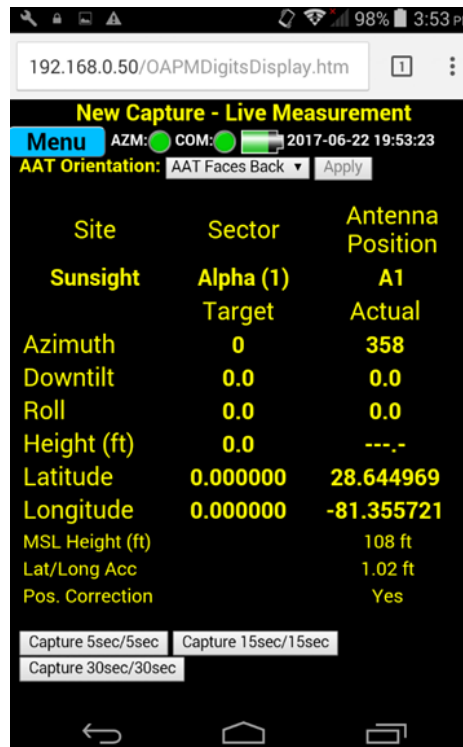

Figure 23
- 5) At the top of the page, ensure Orientation is correct. Click the **Apply** button to save any change to Orientation. **See Figure 23**
- 7) Select the desired capture delay time by clicking or tapping the appropriate button. See Figure 23